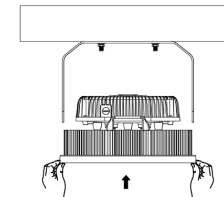

FIG. 5
- 3) Align and re-install the fixture onto the bracket [Fig.5, 6, 7].